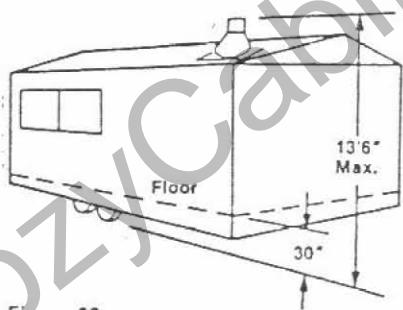

Figure 32
- 2) The height of flashing and chimney sections which project above the roofline shall not exceed 13'6" from ground level for transportation purposes. In (Figure 32), it is assumed the floor level of the Manufactured Home is 30" above the ground.